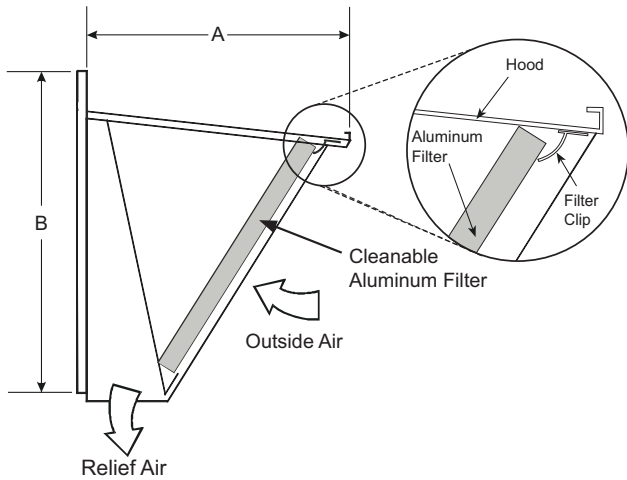

Fig. 22 — EconomizerONE Hood Detail
39. Install the filter by opening the filter clips which are located underneath the hood top. Insert the aluminum filter into the bottom filter rack (hood divider). Push the filter into position past the open filter clips. Close the filter clips to lock the filter into place. (See Fig. 22.)